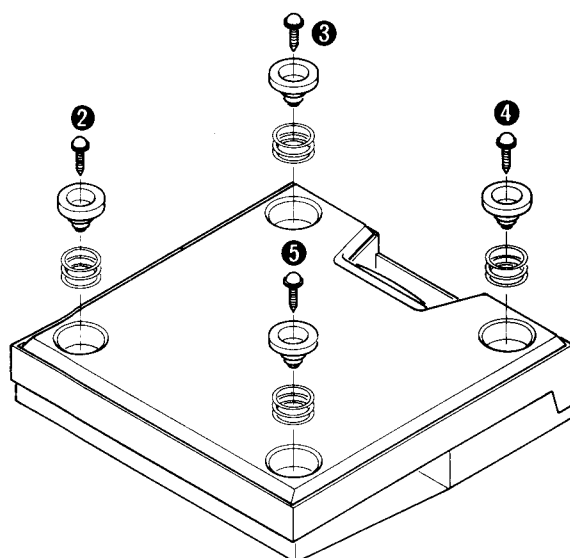

Fig. 4
3. Remove the 4 bottom board setscrews. (Fig. 4: ❷ ~ ❺).